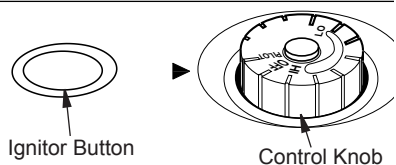

Figure 18 - Control Knob in the OFF Position
4. Wait five (5) minutes to clear out any air. Then smell for gas, including near the floor. If you smell gas, STOP! Follow "B" in the safety information, page 15. If you do not smell gas, go to the next step.
5. Turn control knob counterclockwise  to the PILOT position. Press in control knob for five (5) seconds (see Figure 18).